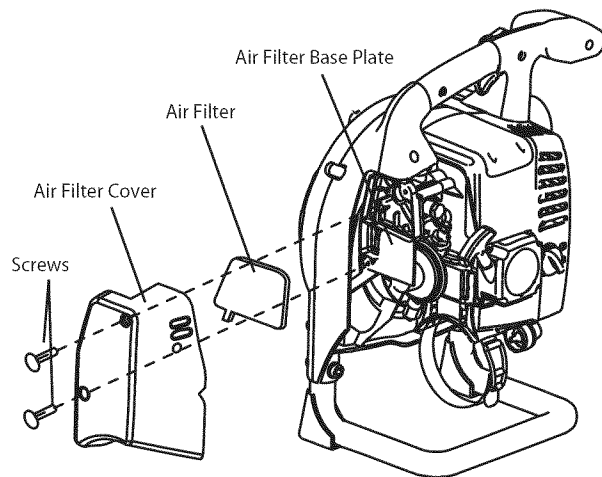

Fig. 19
1. Remove phillips head screw in air filter cover. Then remove the air filter cover (Fig. 19).
2. Remove the air filter (Fig. 19).